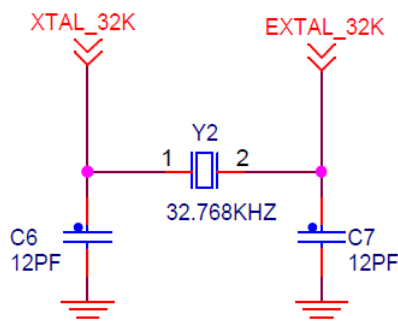

Figure 8. USB-KW40Z board's optional 32.768 kHz oscillator circuit
- Optional 32.768 kHz Crystal Oscillator: Provision is also made for a secondary 32.768 kHz crystal Y2 (see Figure 8). This oscillator can be used for a low power accurate time base.